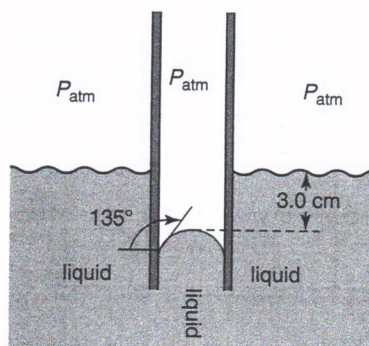

Figure 4.80
49. Intermolecular forces at solid–liquid–gas interfaces can cause capillary rise or capillary depression. Consider a glass capillary tube submerged in a fluid that does not wet glass—that is, a fluid that has repulsive intermolecular interactions with glass. This situation creates capillary depression as shown in Figure 4.80. If the depression $h = -0.3$ cm and the angle of the meniscus is 135 degrees, what is the surface tension of the liquid? The fluid density is 1200 kg per cubic meter and the capillary is 1.0 mm in diameter.